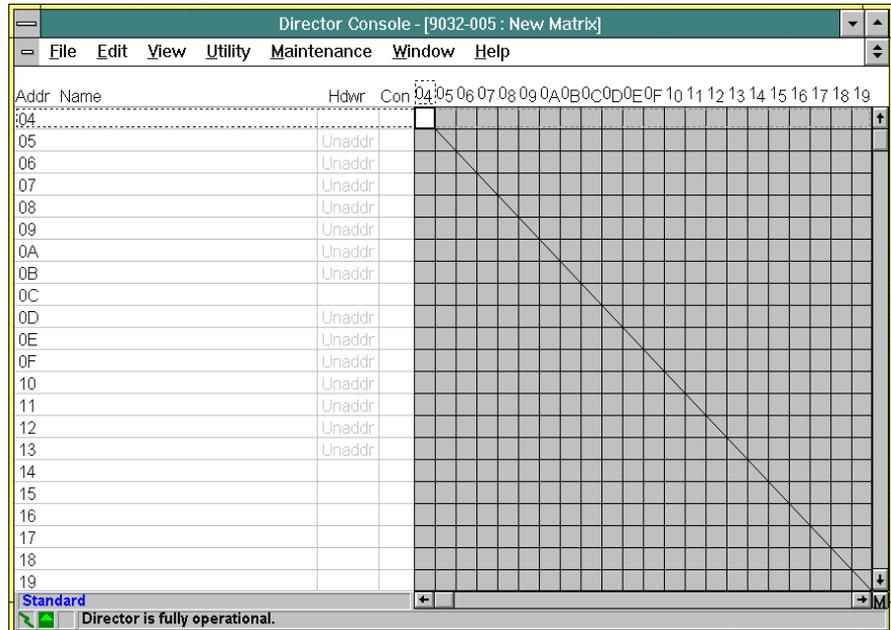

Figure 147. *Matrix Window (FICON, No User-Selected Attributes Set)*
- Enter a value of **22** in the *Number of addresses across* field and click the OK button. The *New Matrix* window appears (Figure 147) with 22 rows and columns displayed in the matrix.